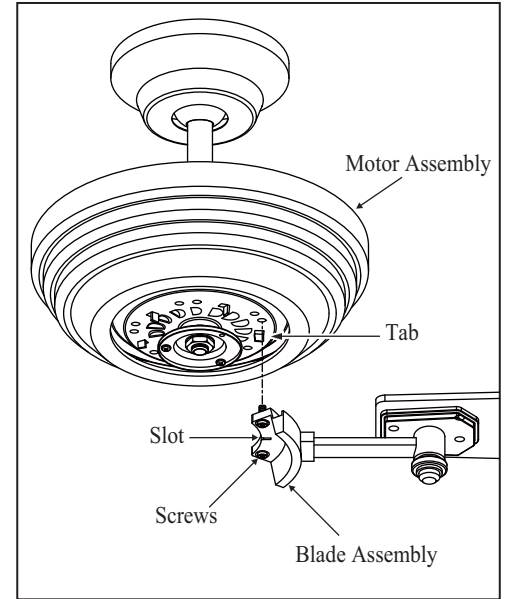

Figure 13
3. Fasten the blade assemblies to the motor by lining up the slots of the blade arms with the tabs on the motor, then tighten the two screws and washers already installed in the blade arms (Fig. 13).